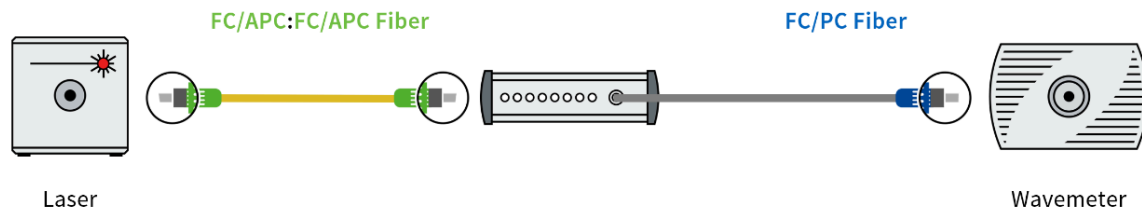

Figure 5: Interfacing the multichannel fiber switch with lasers and wavelength meter.
- See Section 2.3 for the positions of the in- and outputs of the instrument and Figure 5 for an overview of fiber and electrical connections.